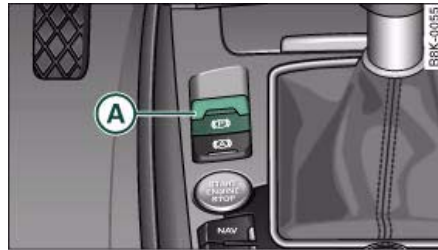

Fig. 132 Centre console: Parking brake
- Pull switch (A) ⇒ fig. 132 to apply the parking brake. The indicator lamp in the switch will light up.